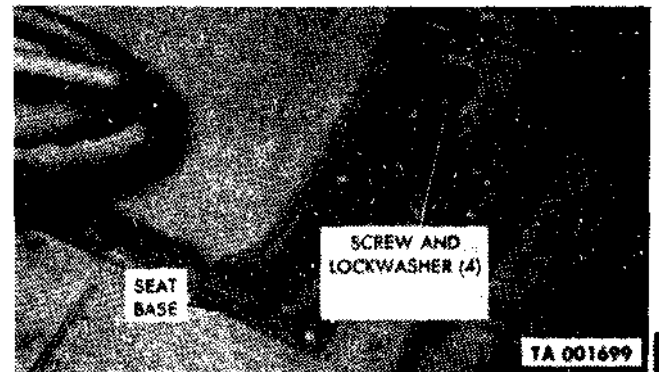

Figure 2-219.3. Driver's seat removal and installation.
*a. Removal* (fig. 2-219.3). Remove four screws securing seat base to cab floor and remove seat assembly from cab.
*b. Installation* (fig. 2-219.3). Position seat assembly in cab. Holes in seat base must be aligned with holes in cab floor. Secure seat to cab floor with four screws and washers.